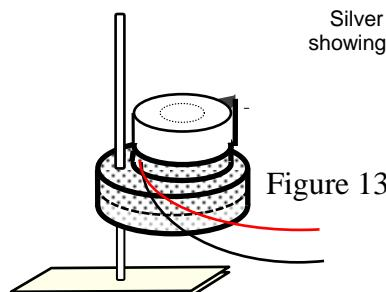

Figure 13
6.1 Place one end of the shaft into the push-fit tool. (Fig. 13.)